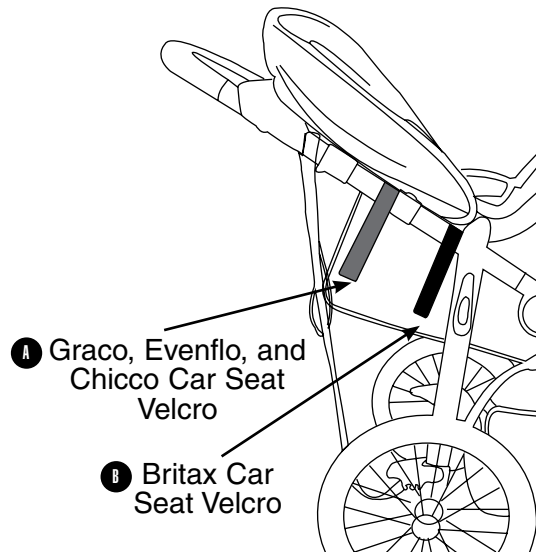

Fig. 14F
28. Final step is to secure the car seat to the stroller using the straps with velcro. (Fig. 14F)